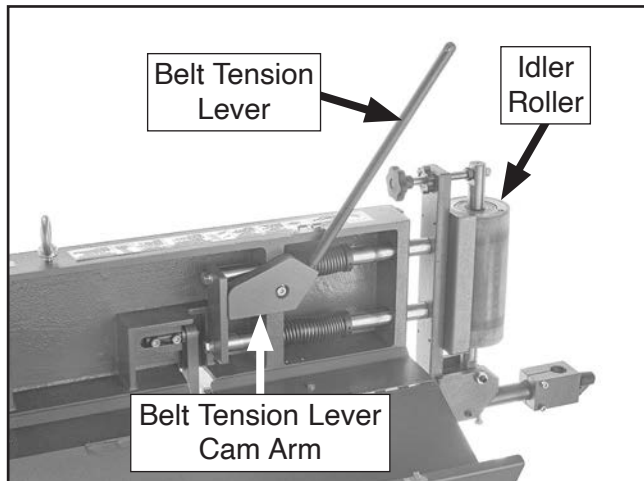

Figure 21. Belt tension lever installed and moved toward idler roller.
7. Insert belt tension lever into cam arm shown in **Figure 21**, then move belt tension lever toward idler roller until arm locks in place.